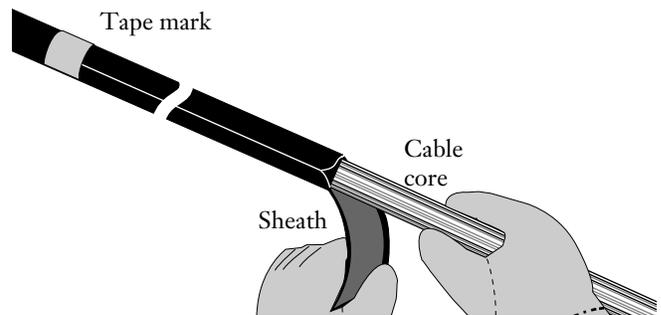

Figure 18
6.6 Carefully separate the sheath from the yarn-covered cable core back to the tape mark (Figure 18).